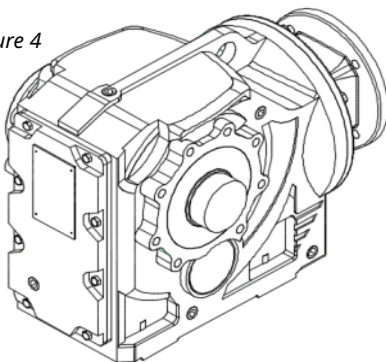

Figure 5
4. Fasten Power Lock bolts in order (Fig. 5 & 6) shown below and apply fastening torques: